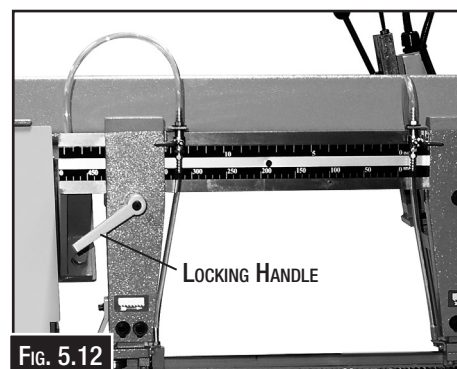

FIG. 5.12
5.10 ADJUSTING SAW ARM (Fig.5.12)